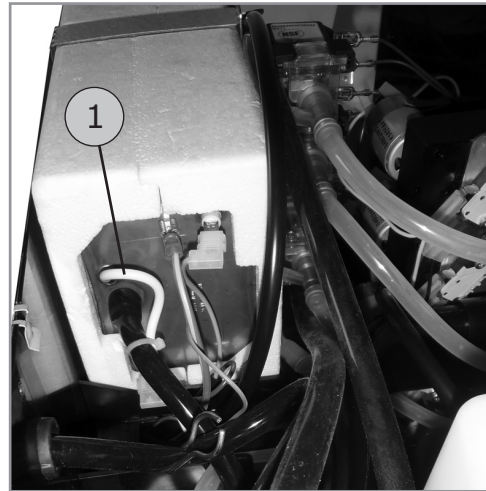

Figure 38
3. Pull out the temperature sensor (1, figure 38) from its tube on the bottom side of the hot water tank.